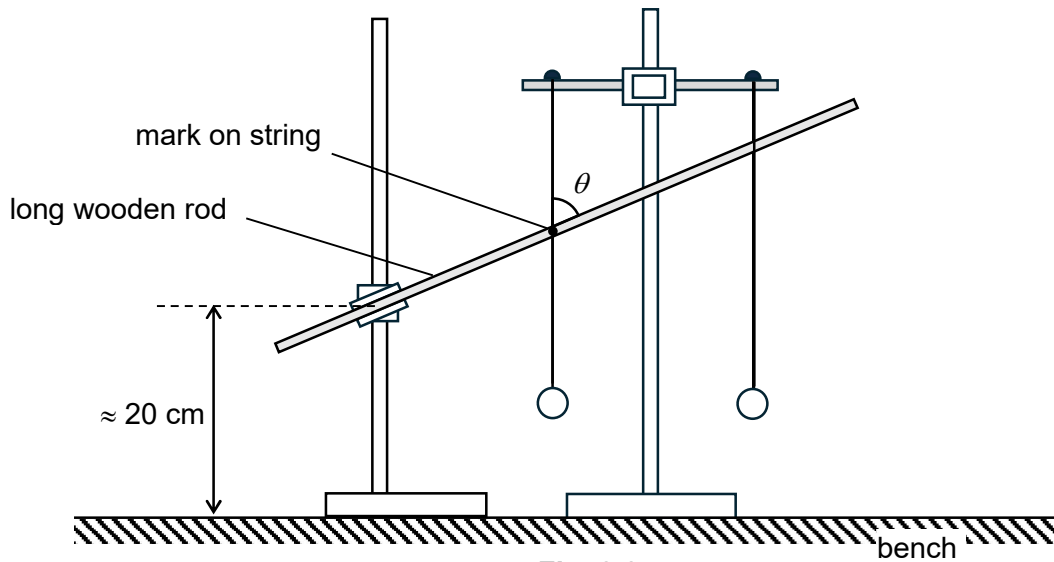

Fig. 2.2
- (a) Clamp the long wooden rod on another stand and set up as shown in Fig. 2.2.